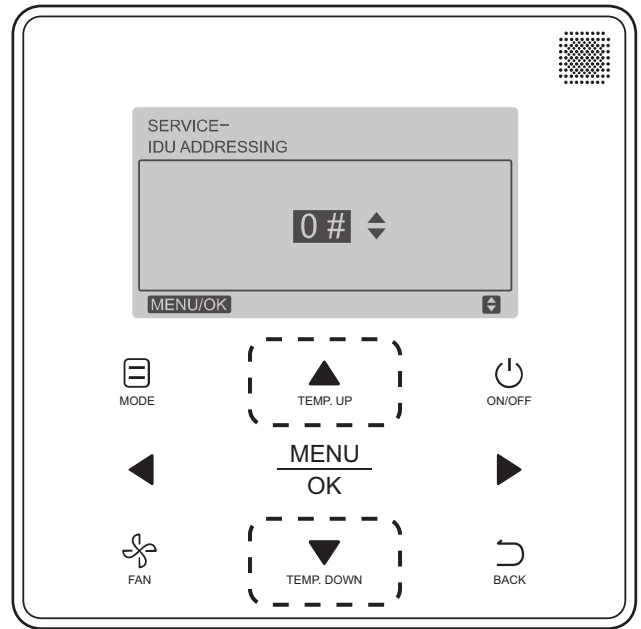

Fig. 29 — Programmable Controller (40VM900003) Setting IDU Address
3. Press **TEMP. UP** or **TEMP. DOWN** to choose the address, see Fig. 29. Press **MENU/OK** to send this address to the IDU.